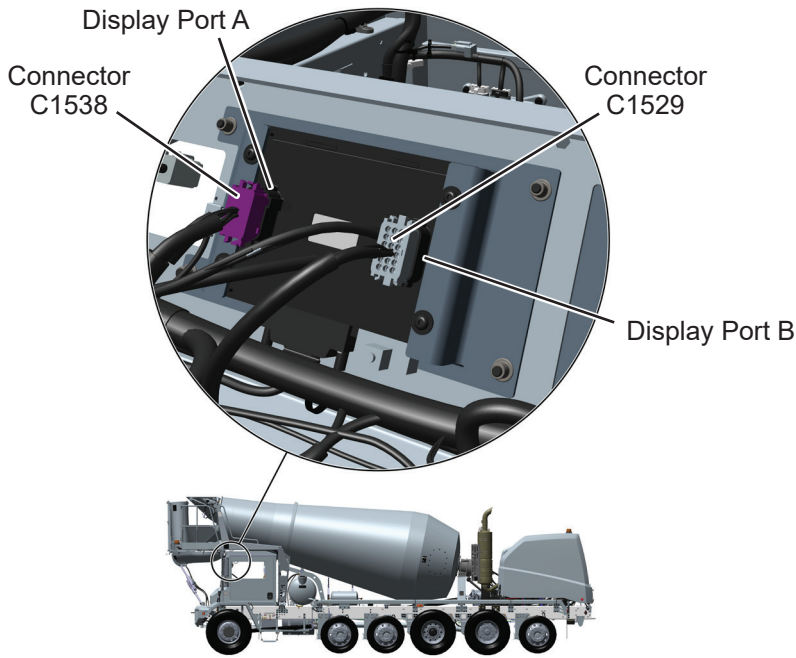

Figure 18
33. Slide display and bracket assembly into overhead console through display opening. See Figure 18.
36. Secure display bracket to overhead console with four screws, and flat washers removed in Step 12. See Figure 18.